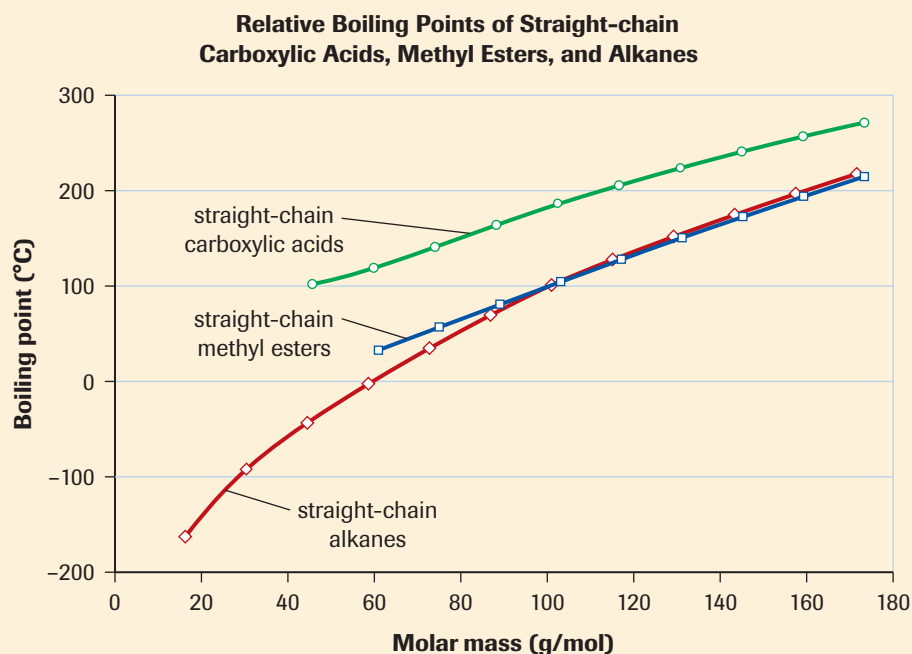

Figure 4
- The graph in **Figure 4** communicates evidence gathered for the boiling points of straight-chain carboxylic acids, methyl esters, and alkanes. (Methyl esters are prepared with methanol and their names begin with “methyl.”) The boiling points are plotted against the molar masses of these organic compounds. The scientific purpose of this task is to test the explanatory power of the intermolecular force theories known to you.